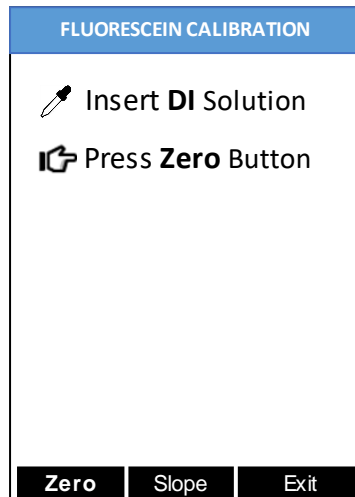

Figure 4
- 5) Figure 4, the first screen of the fluorescein (alone) calibration, appears.